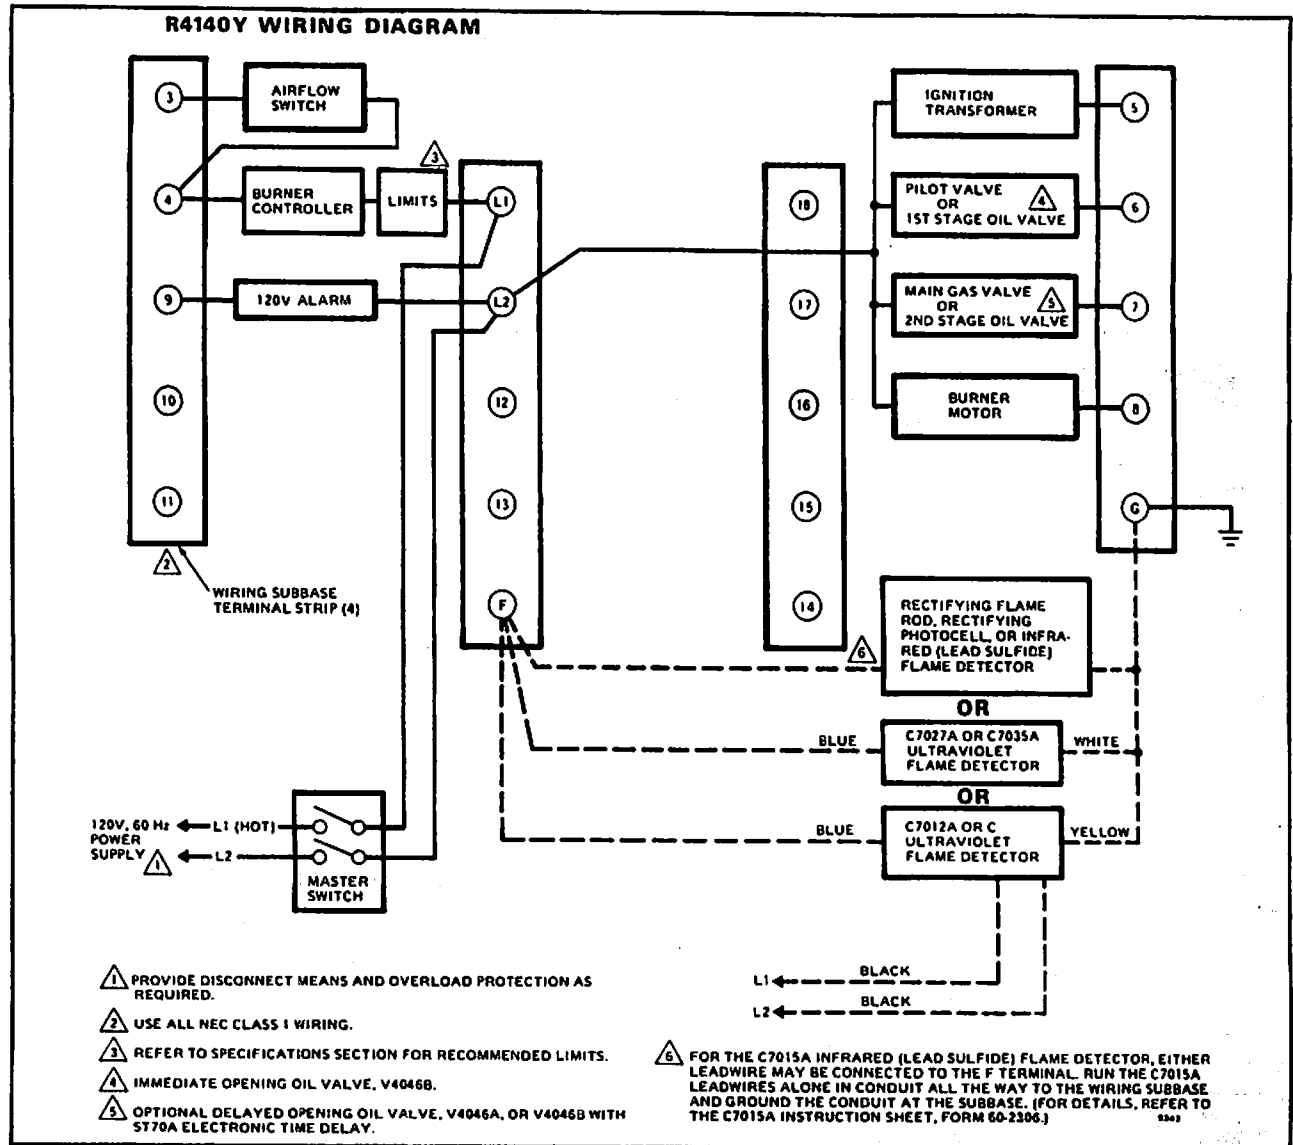

FIG. 7—SAMPLE BLOCK DIAGRAM OF FIELD WIRING FOR THE R4140Y PROGRAMMERS.
WIRING TO SUBBASE (FIG. 7)
5. Refer to Fig. 7 for typical field wiring connections. Follow the burner manufacturer's wiring diagram if provided.